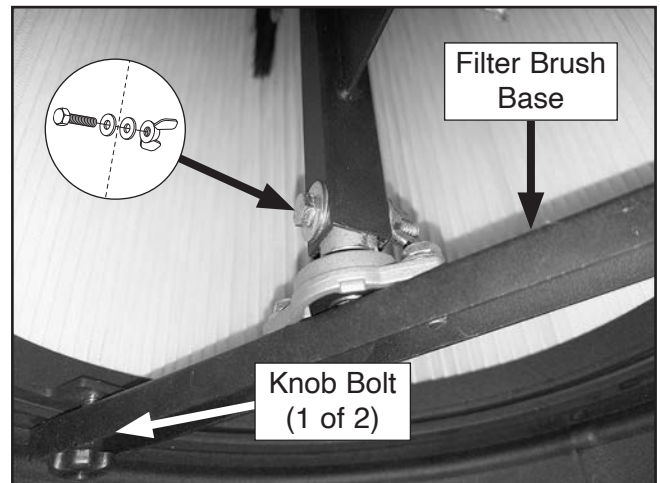

Figure 34. Filter brush base attached to filter brush assembly and canister filter assembly.
21. Attach filter brush base to filter brush assembly with (1) $\frac{1}{4}$ "-20 x $1\frac{1}{4}$ " hex bolt, (2) $\frac{1}{4}$ " flat washers, and (1) $\frac{1}{4}$ "-20 wing nut (see **Figure 34**).
22. Secure filter brush base to canister filter assembly with (2) $\frac{1}{4}$ "-20 x $\frac{3}{4}$ " knob bolts (see **Figure 34**).